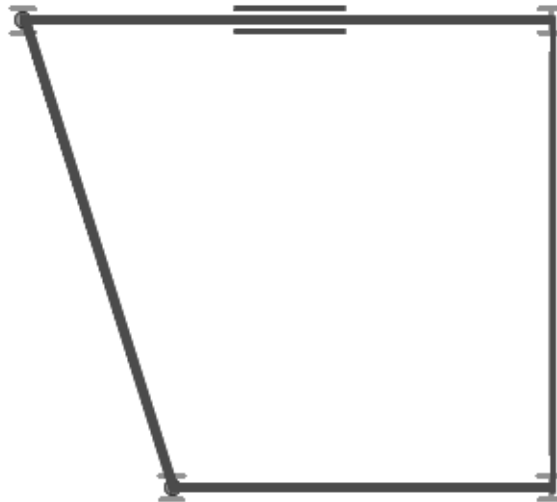

Figure 7–9
4. In the Draw panel, click  (Beam Direction) and select one of the sketch lines that runs as you want the system to run, as shown on the top horizontal beam in Figure 7–9.